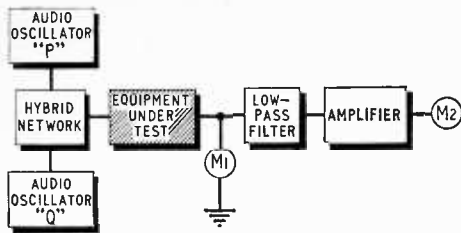

Fig. 2. C.C.I.F. system of intermodulation distortion measurement.
**C.C.I.F.** In this system, two signals ("P" and "Q") of equal amplitude but with a relatively small frequency difference are applied simultaneously to the equipment under test via a suitable combining network (Fig. 2). The resultant output is monitored